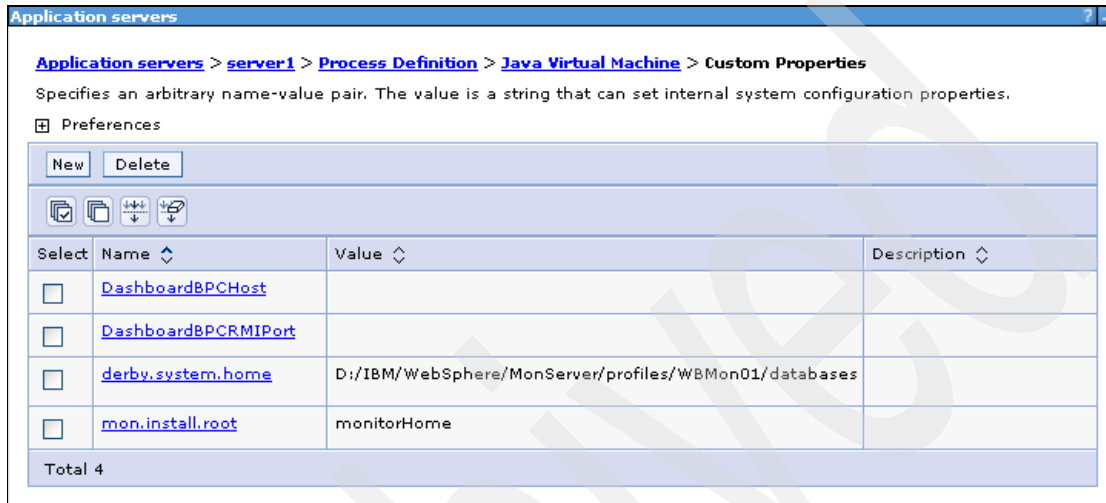

Figure A-11 WebSphere Business Monitor custom properties
6. The list of custom properties shows two variables (Figure A-11) called *DashboardBPCHost* and *DashboardBPCRMIPort*, which have no values defined. In case the two properties are not defined, create them by clicking the **New** button.